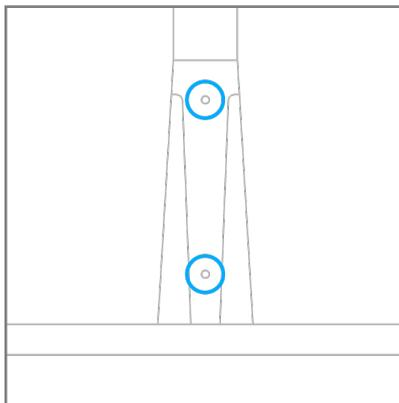

Figure 03.
Step 6: To install the corner braces, remove the two pre-installed 5/16" long button head hex screws on each side of the stand. Line up the two holes on each brace with the two holes on each side of the stand and secure with the previously removed screws (Figure 03.).